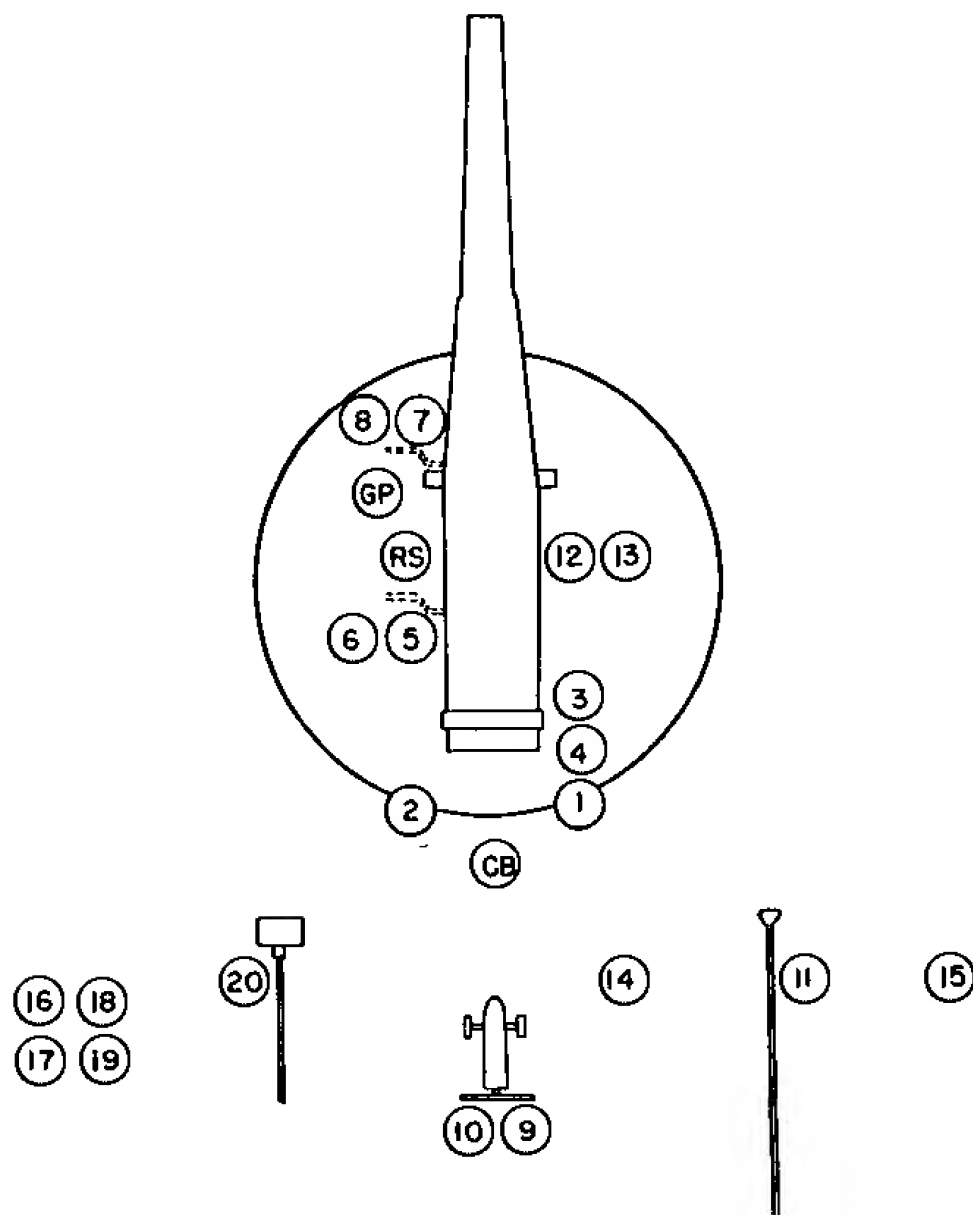

FIGURE 2.—Positions at DETAILS, POSTS.
- (1) Training and efficiency of the personnel of his section.
- (2) Condition of the matériel under his charge.
- (3) Camouflage discipline and gas discipline at the emplacement and magazines.
- (4) Observance of all safety precautions pertaining to the service of the piece at his emplacement and magazines under his charge.
- (5) Police of the emplacement and magazines under his charge.
c. When his section arrives at the emplacement he commands: 1. DETAILS, 2. POSTS, and supervises the procuring of equipment. After all details have reached their posts (fig. 2) he commands: EXAMINE GUN. He then personally makes an inspection of the gun, carriage, and other matériel, including that pertaining to the service of ammunition.